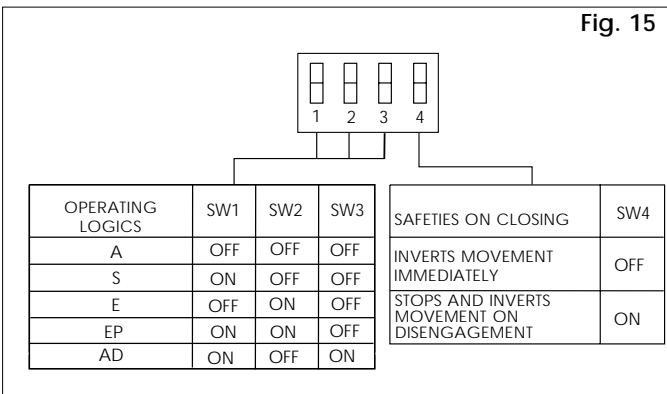

Fig. 15
- 1) Program the 410 MPS electronic control unit according to specific requirements as shown in fig. 15.